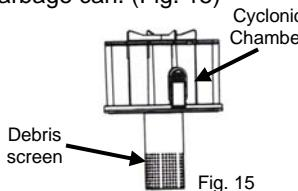

Fig. 15
3. After emptying the dust cup, make sure that any hair or fibers that might have accumulated around the debris screen have been removed. To remove these, you can gently scrape it against the edge of a garbage can. (Fig. 15)